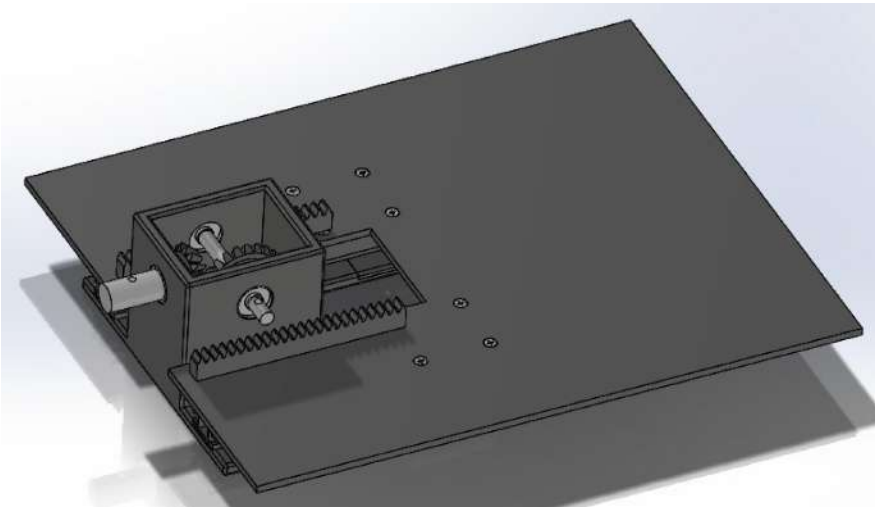

Figure 18: Adding phantom bed to gearbox
8. Slide the linear slides on the bottom of the phantom bed on top of the linear rails attached to the gearbox as illustrated in figure 18.